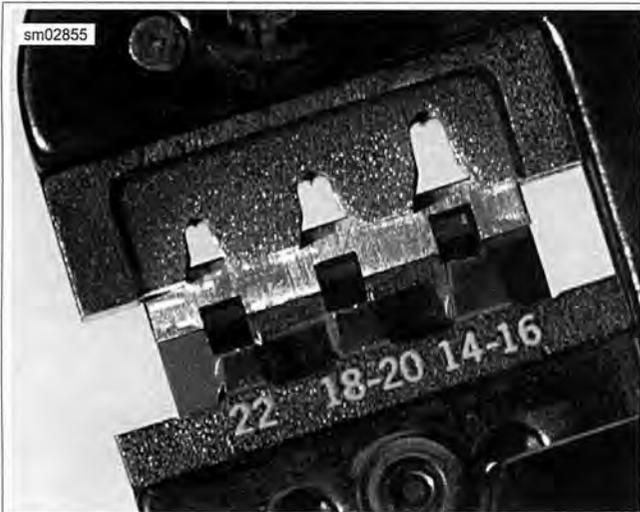

Figure A-50. Square Openings in Socket Locator Bar
1. See Figure A-50. With the crimp tails up, place the terminal through the punch/die into the square opening in the socket locator bar.